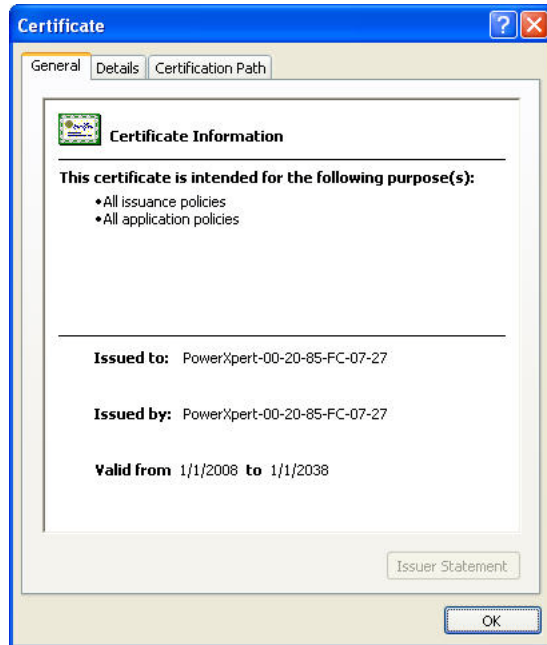

Figure 36. View Certificate Window
- e. Click **View** to open the Certificate window (see Figure 36).